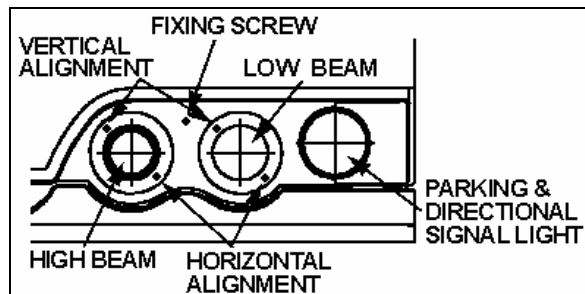

FIGURE 40: HEADLIGHT ASSEMBLY
Headlight aim should be checked after installing a new bulb. Aiming can be performed without opening headlight assembly. Horizontal and vertical aiming of each module is provided by two adjusting screws that pivot the module in the housing for proper alignment (fig. 40). There is no adjustment for focus since the module is set for proper focus during manufacturing assembly.
2. Make sure that headlight assembly fixing screw is properly fastened (Fig. 40).
If beam is offset, a LOW CANDLES message will appear. Using vertical and horizontal alignment screws, adjust beam as needed (fig. 40).